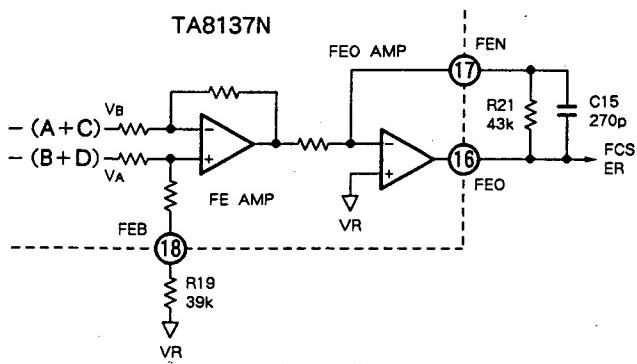

Fig. 1-5
The difference between the output of the RF I-V amplifier (1)  $V_A$  and that of the RF I-V amplifier (2)  $V_B$  is obtained, and the OEIC output signal  $(B + D) - (A + C)$  is supplied at the center of the reference voltage. (See Fig. 1-5.)